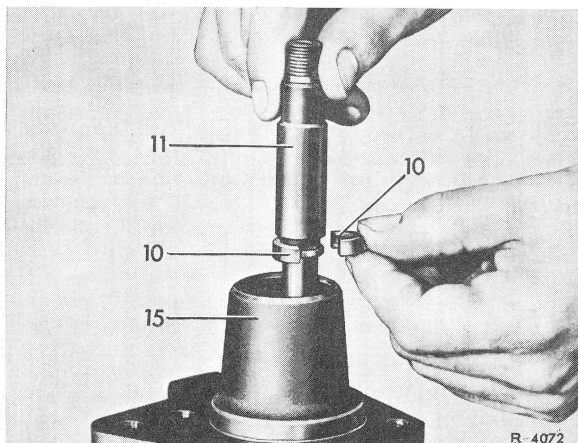

Fig. 1
1 Place both shell halves (10) on drive shaft (11), then press drive shaft into housing cover (15) (Fig. 1).